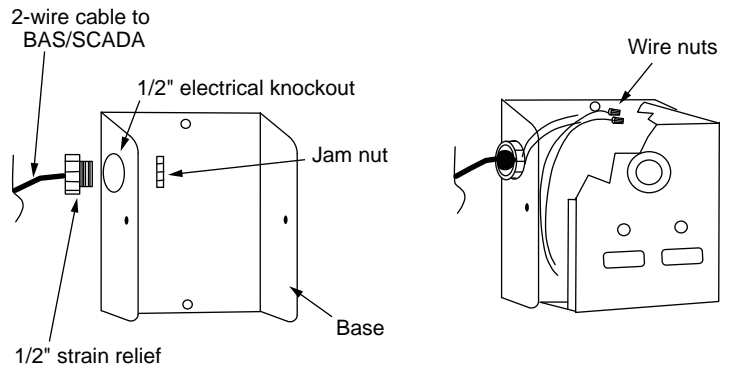
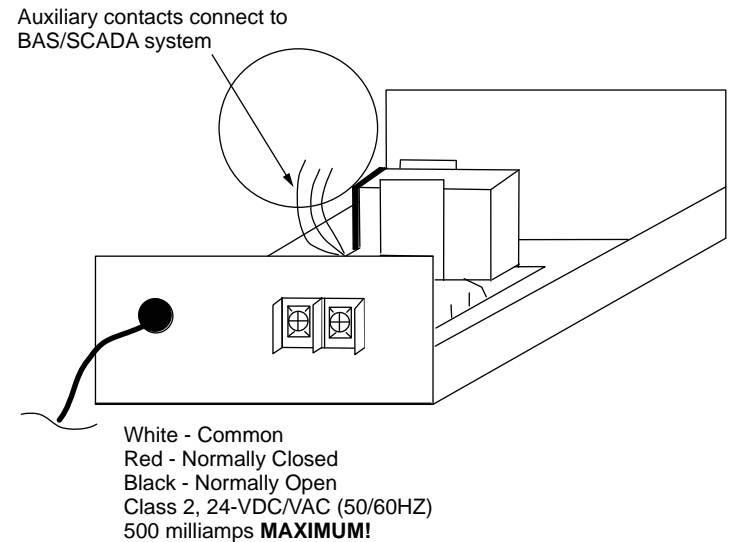

FIGURE 9
FIGURE 10
12. If auxiliary contacts (Figure 10) are used, remove the cover from the base, then remove the 1/2" electrical knockout (Figure 9).
13. Using 16 - 2 AWG stranded wire, route all wires into the alarm base (Figure 9). **CAUTION:** Keep wires away from sharp objects and internal components. **NOTE:** Leave at least 6" of wire inside of enclosure.
14. Install a 1/2" strain relief with jam nut, then connect the wires for the required application using wire nuts (Figure 9).